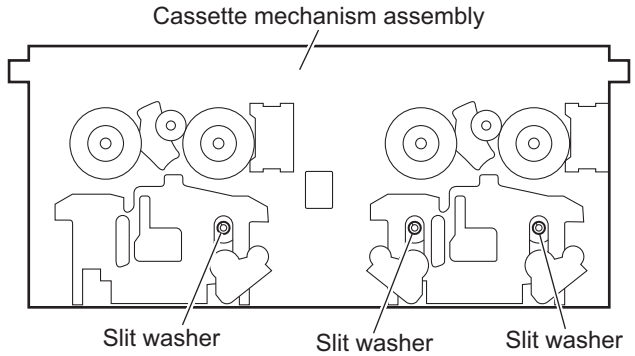

Fig.4
3.3.3 Removing the clutch assemblies (See Figs.4 to 7)
- (1) From the front side of the cassette mechanism assembly, remove the three slit washers attaching the flywheel 1, flywheel 2 and flywheel 3. (See Fig.4.)